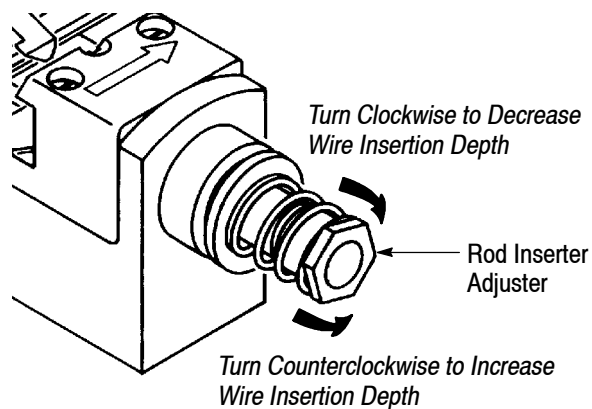

Figure 4
2. If the wire is inserted too deep, turn the rod inserter adjuster *clockwise* one-sixth of a revolution (the wire insertion depth will be decreased by approximately 0.20 mm [.008 in.]). If the wire is not inserted deep enough, turn the rod inserter adjuster *counterclockwise* one-sixth of a revolution (the wire insertion depth will be increased by approximately 0.20 mm [.008 in.]). Refer to Figure 4.